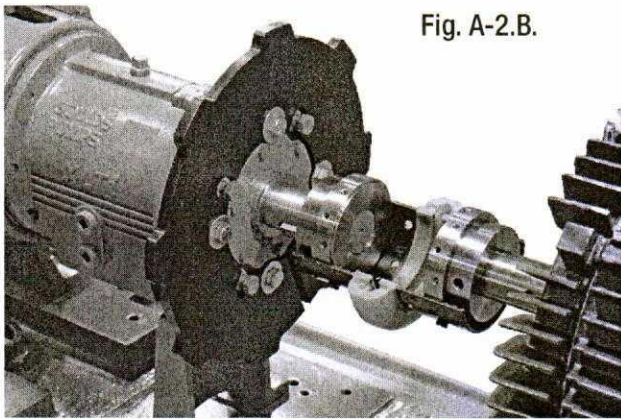

Fig. A-2.B.
1. STi, MTi, LTi - Align adapter ring to the bearing frame. (No impeller adjustment required.) Attach the adapter ring to the bearing frame using the mounting bolts as shown in Fig. A-2.
1.B. XLTi - Align the adapter ring (pump end) to the pump bearing housing so that the large slots on the end plate clear the bearing housing tap bolts and the small slots are aligned to the impeller adjusting bolts. Attach the adapter ring to the bearing housing using the mounting bolts as shown in Fig. A-2.B.